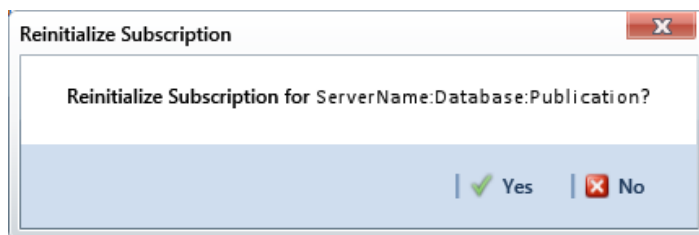

Figure 15-13. Reinitialize Subscription
- 4 Click  **Yes** when the message *Reinitialize Subscription* displays (Figure 15-13).